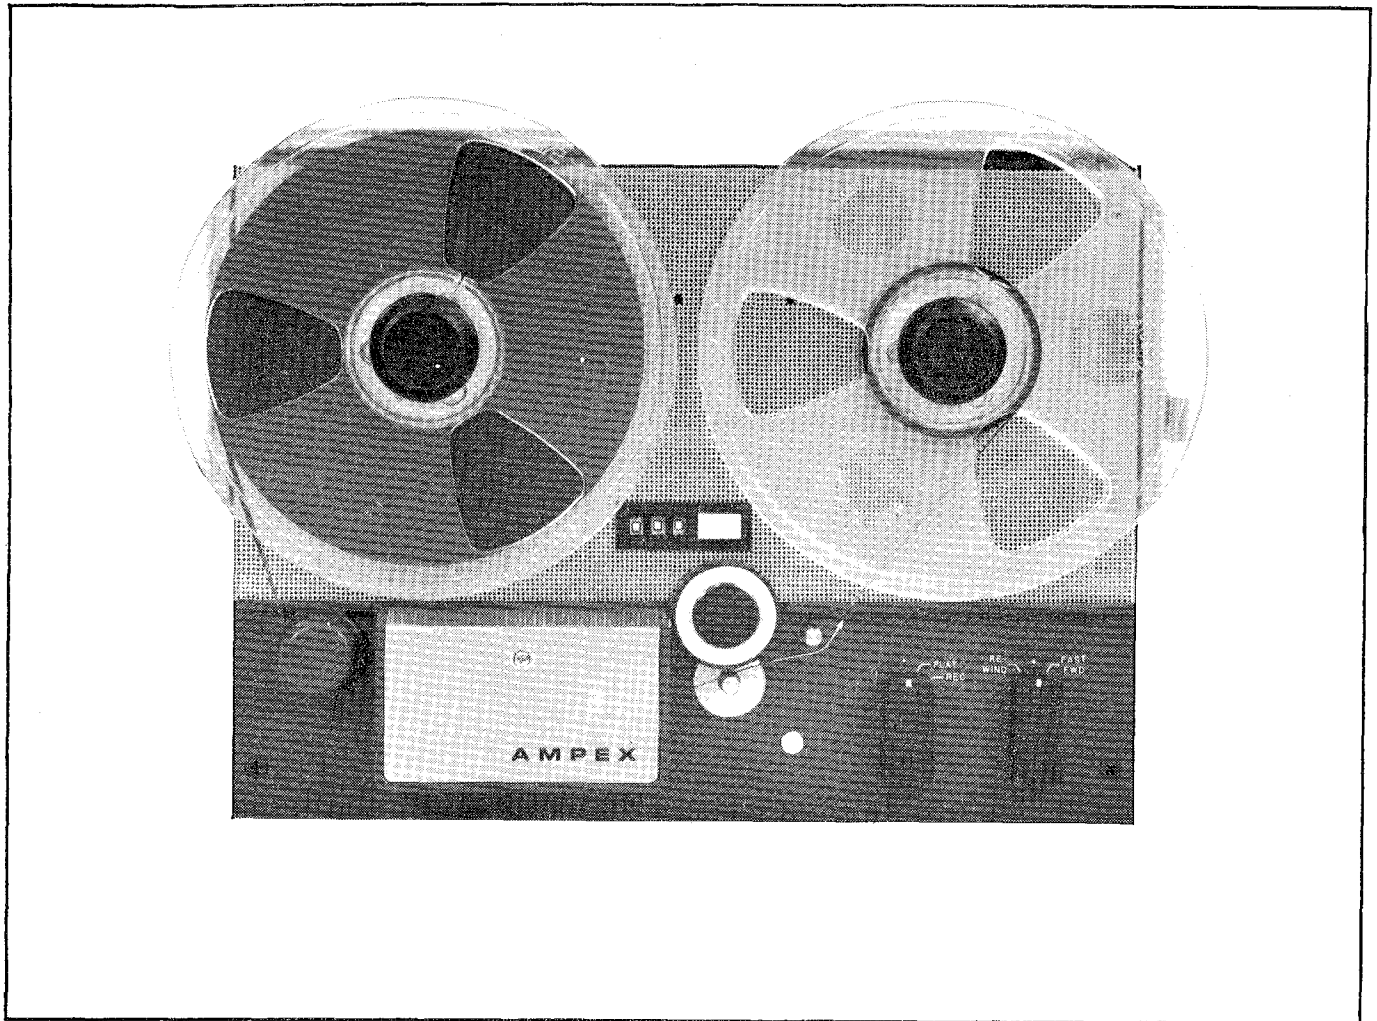

Figure 1-2. Tape Transport
1.4 TAPE TRANSPORT (Figure 1-2)